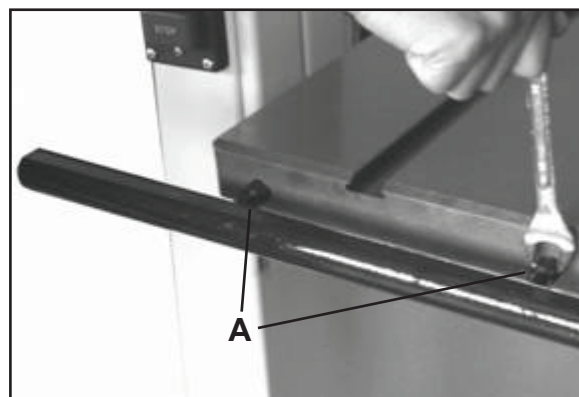
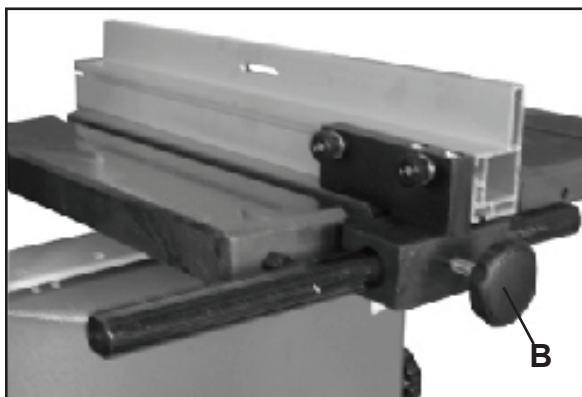
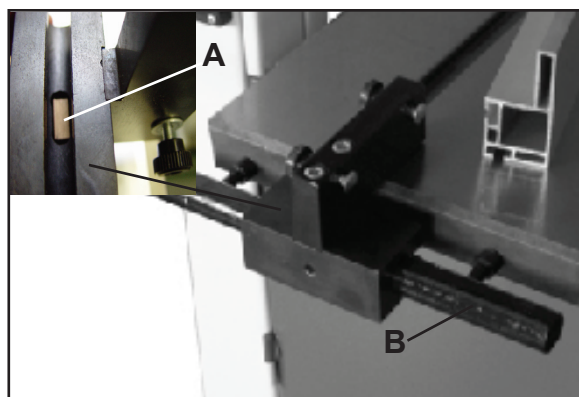

Figure 3
Figure 5
Figure 4
3. Locate the short top brace supports and install to the legs as shown Fig.3.S.
Mount the fence bar onto the table with the two fence bar nuts.(A-Fig 3) Do not fully tighten yet as they may need to be adjusted later. The bar should be installed so that the longest amount of bar is on the left hand side allowing the fence to be attached. Place the brass lock shoe into the fence seat.(A-Fig 4) Position the fence assembly onto the fence bar(B-Fig 4). Lay the fence on to the table and lock by tightening the fence lock knob. (B-Fig 5)